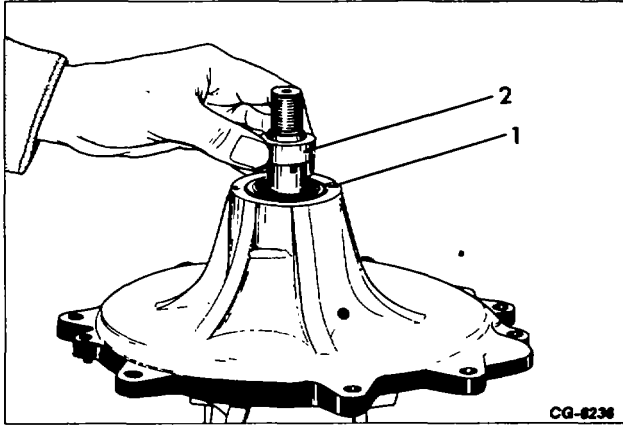

Figure 19. - Front Grease Seal and Wear Sleeve Removal
4. Remove the spacer/wear sleeve (2, Fig. 19), then discard the front bearing grease seal (1) as shown.